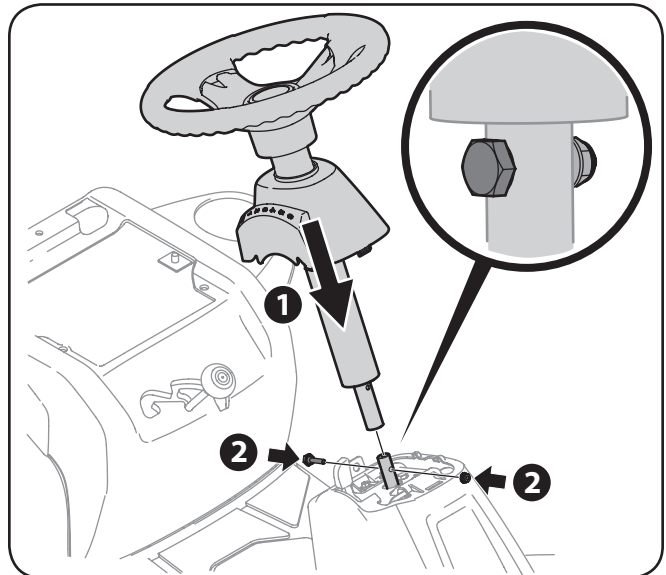

Figure 3-2
4. Lower the steering wheel assembly onto the lower steering shaft and secure with the shoulder bolt and lock nut previously removed. See Figure 3-2.